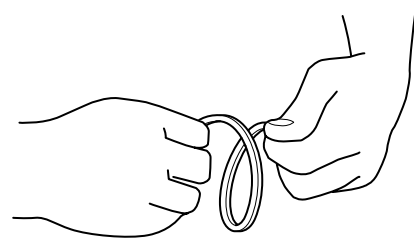

Fig 83.
- First twist and then fit the two slide rings into their installation grooves → Fig 83. (□ E-197).